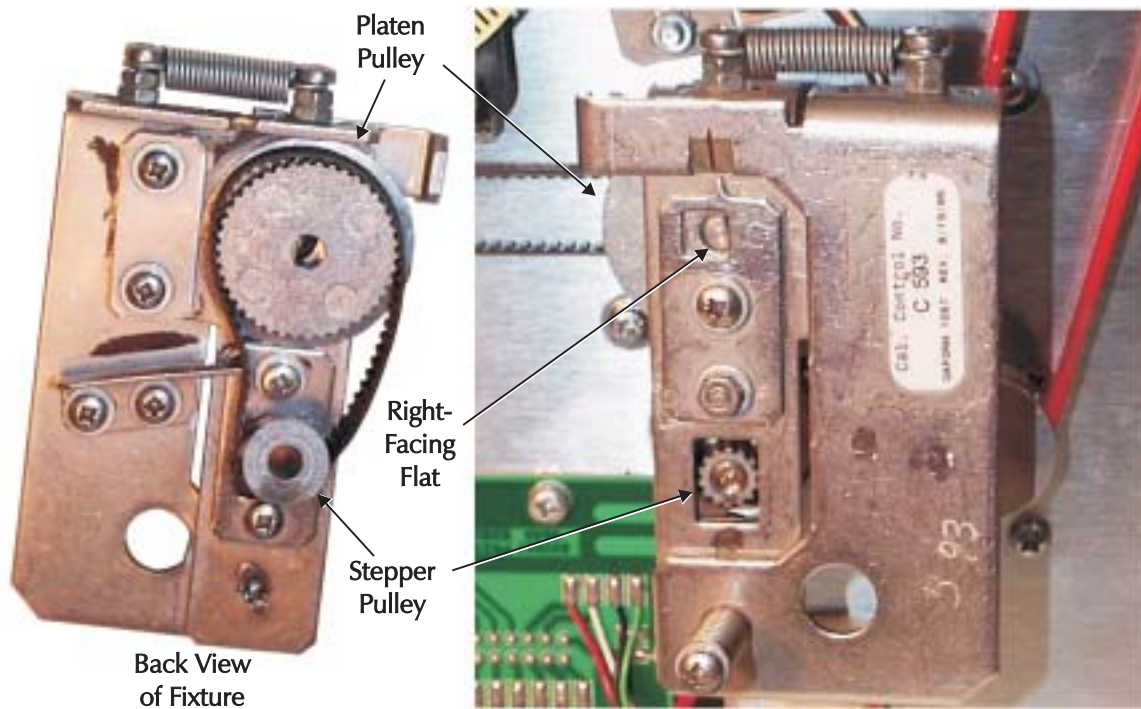

Figure 6-8. Stepper Motor Belt Tensioning Fixture.
Step 5. Attach the Belt Tensioning Fixture between the Stepper and Platen pulleys (see Figure 6-8). Note how the fixture interfaces with the pulleys and belt.